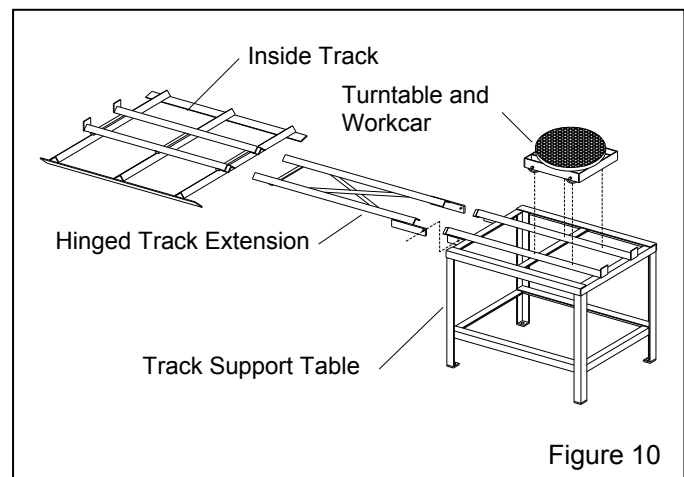

Figure 10
3.5.1 Components of the turntable and track assembly are shown in Figure 10. The assembly consists of: